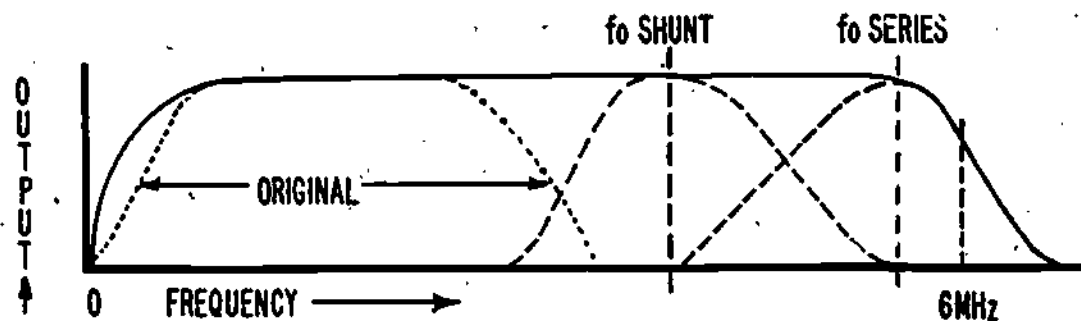

Figure 16
15. Figure 16 shows the result of combining RC low frequency compensation and both shunt and series high frequency compensation to the original video amplifier.
As you study Figure 16, you can see the total effect of frequency compensation (low and high) by the solid line frequency response curve. The dotted lines indicate the original response curve before compensation is applied. The dashed lines indicate the individual resonance curves for shunt and series high frequency compensation. The overall improvement is significant, and extends the frequency response of the video amplifier from about 30 Hz to 6 MHz.